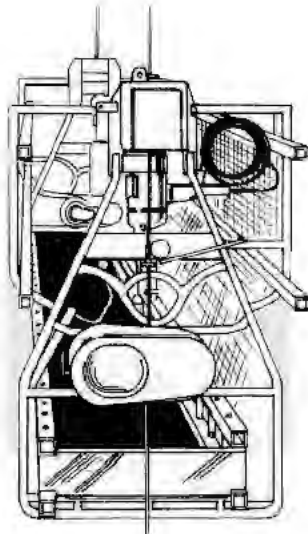

Figure 4
2.4 Powered Traction Climber Equipped Stage (Figure 4)